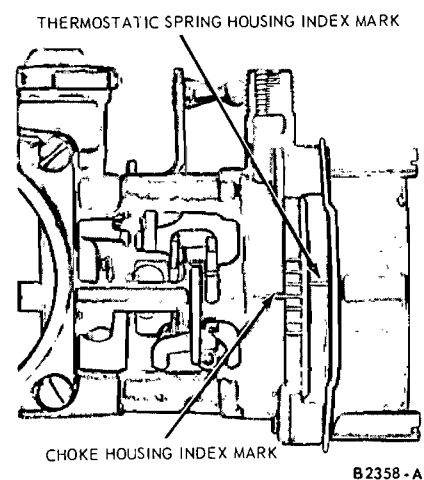

FIG. 21—Automatic Choke Thermostatic Spring Housing Adjustment—Typical
2. Loosen the thermostatic spring housing clamp retaining screws. Set the spring housing to the specified (Part 10-11) index mark (Fig. 21) and tighten the clamp retaining screws.